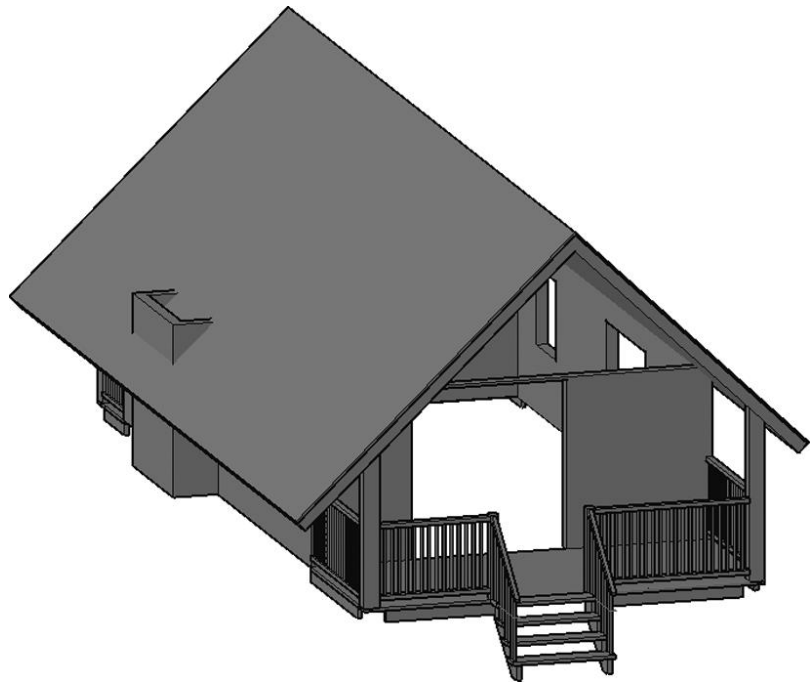

FIGURE 16.76: The eastern side of the cabin with extruded roof polylines correctly aligned
16. Move the extruded roof 1'-6" (457 mm) along the positive x-axis. When finished, your cabin should resemble the one shown in Figure 16.76.